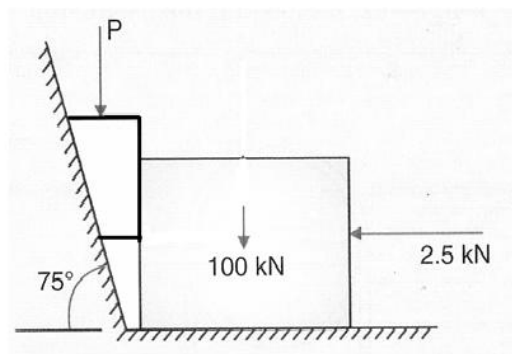

Fig.6
- 13 Determine the force P required to move the wedge downwards as shown in Fig.6. (10)